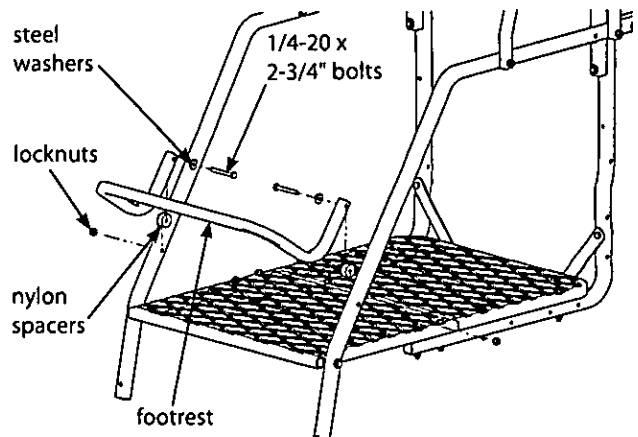

Figure 5
7. Attach footrest (410061) to ladder side rails using (2) provided 1/4-20 x 2-3/4" bolts, locknuts, steel washers and nylon spacers. **SEE FIGURE 5.**